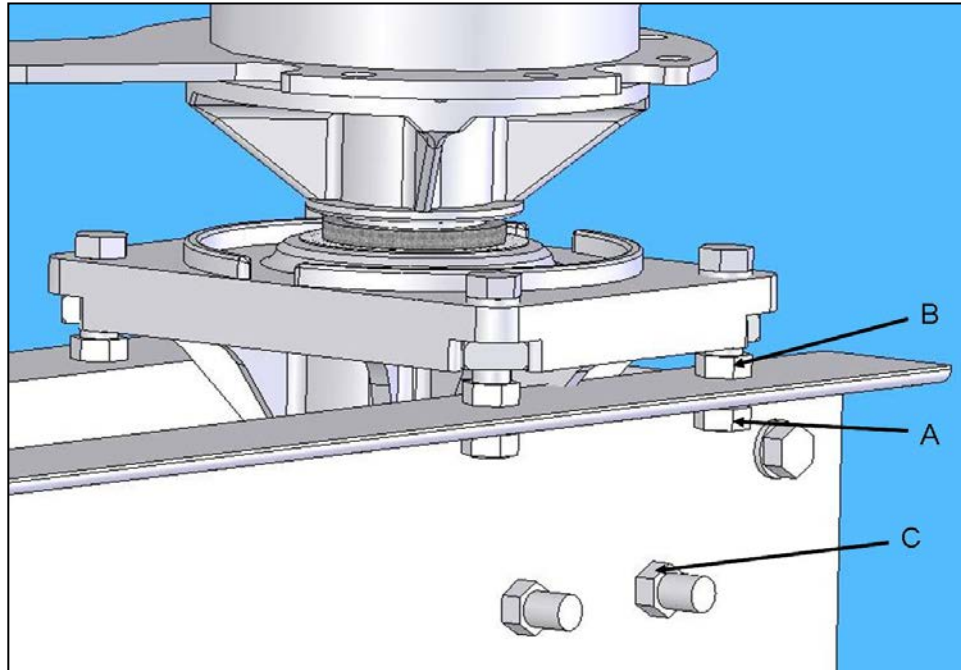
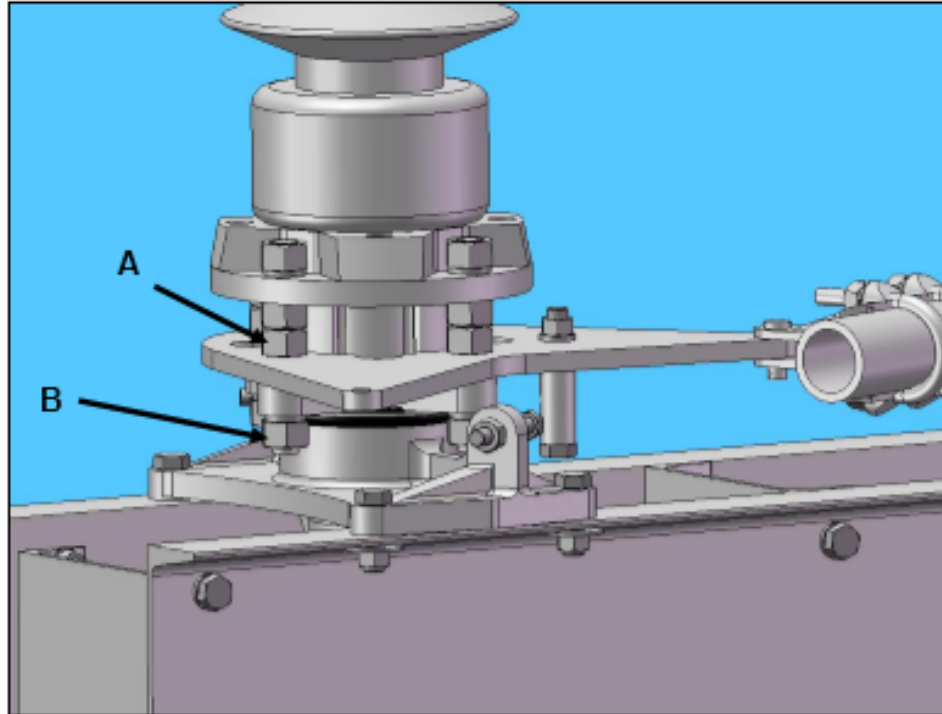
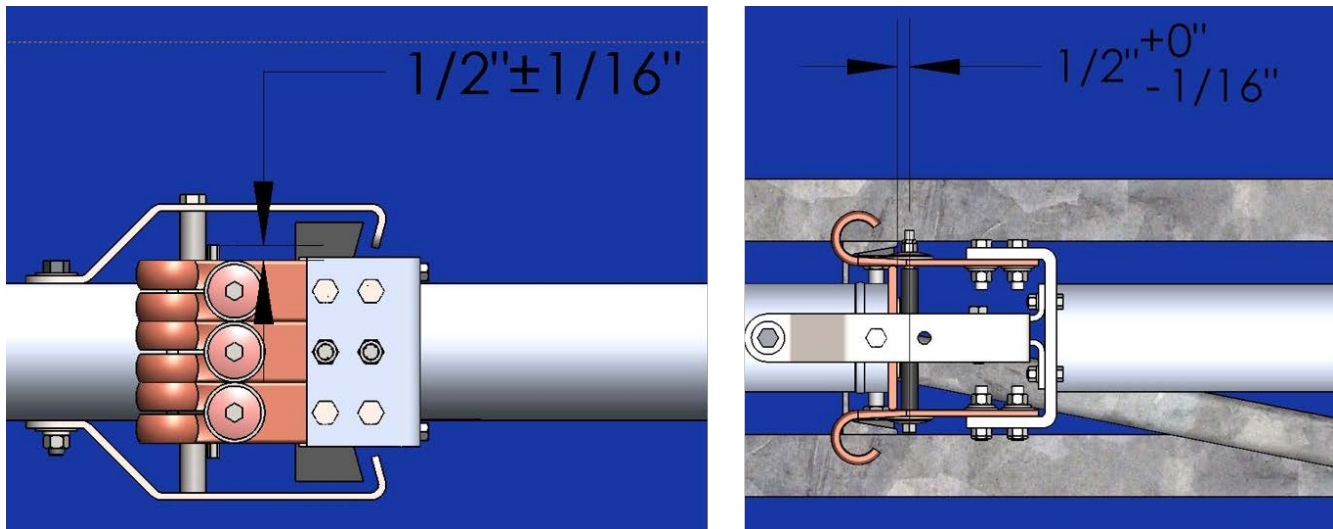

Figure 4: Insulator Stack Alignment (Heavy Duty Bearing)
Figure 5: Insulator Stack Alignment (Extra Heavy Duty Bearing)
Figure 8: Switch - Fully Closed Position (Left: Side View, Right: Top View)
6. Confirm proper insulator alignment, both insulators must be as near to perpendicular as possible to both the long and short axis of the disconnect switch base. **NOTE:** The original insulator stack height must be maintained. When the nuts on the jack bolts are used to adjust insulator tilt, opposite nuts must be turned equally (run one nut up a certain number of turns, turn the opposite nut down the same number of turns). Refer to **Figure 4** and **Figure 5.**
9. If the insulator needs adjustment, use the nuts on the jack bolts of the insulator bearing to tilt the insulator in the needed direction. Refer to **Figure 4** and **Figure 5**.
Refer to **Figure 4:**
5. The male blade assembly should touch the blade stops as shown in **Figure 8**. If adjustment is necessary to achieve contact, loosen the bolts that attach the blades to the insulators, and use the bolt hole tolerances to adjust the spacing. If a gap is still present (**Figure 8**), utilize the insulator stack adjusting bolts to adjust further (Refer to **Figure 4** and **Figure 5**). Torque all bolts to the recommended value(s) shown in Table 2.
6. Contact fingers should be centered or as close as possible on contact bar. All contact fingers must make contact with silver on contact bar in closed position as shown in **Figure 8**.
9. Refer to **Figure 5**,